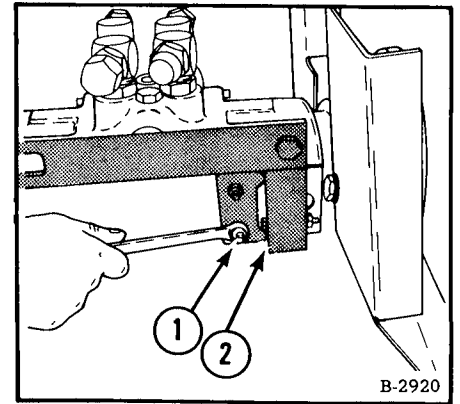

Fig. 3-42 Loosen Pintle Arm Stops
- (2) Disconnect the steering levers from the control rod.
- (3) Start the engine and run it at idle RPM. Adjust the rear pintle arm first. Loosen the pintle arm stops (Fig. 3-42, Item 1). Adjust the pintle arms (Item 2) so that the axles do not turn. Slide the stops against the pintle arms and tighten the bolts.